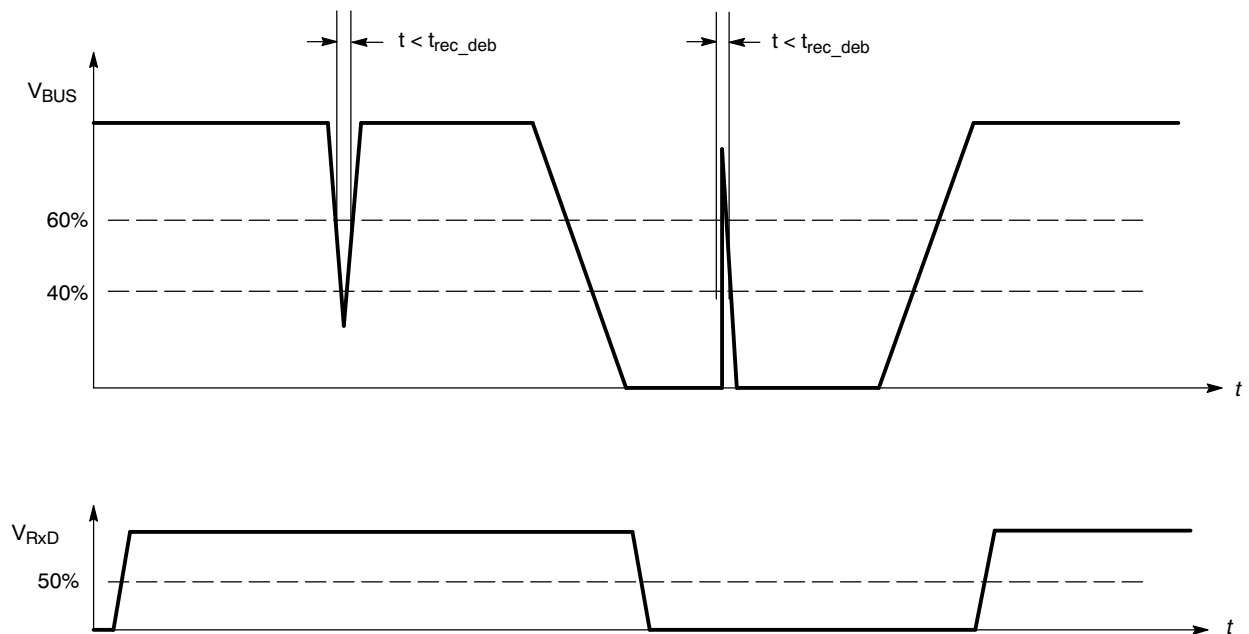
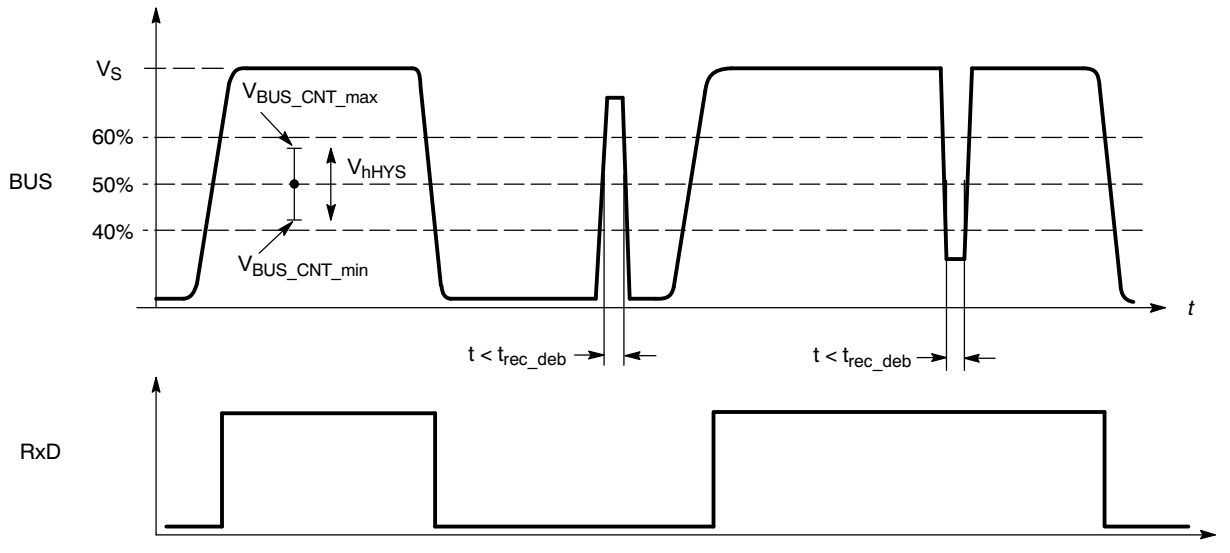

Figure 3. Receiver Debouncing
Figure 7. Receive Impulse Diagram
11. See Figure 3 - Receiver Debouncing.
The signal on the BUS pin will be transferred continuously to the RxD pin. Short spikes on the bus signal are filtered with internal circuitry (Figure 3 and Figure 7).